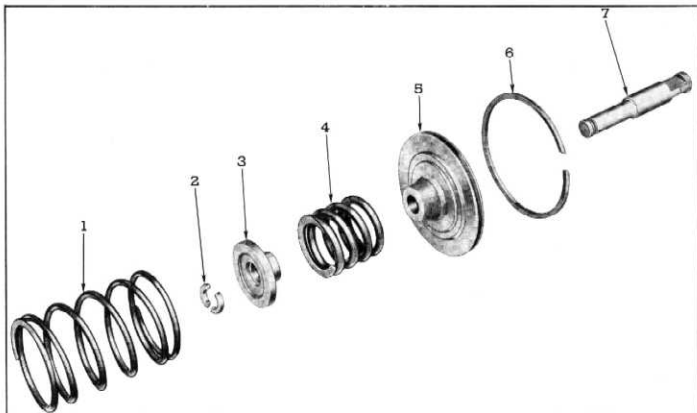

Fig. 109—Layout Reverse Serve Piston
2. Figure 109 shows layout of reverse servo piston assembly parts.